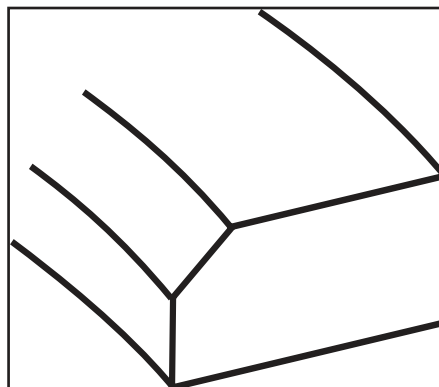

Figure 3
- If ring has no dot but does have inside diameter bevel, bevel goes to top of piston. **See Figure 3, below.**